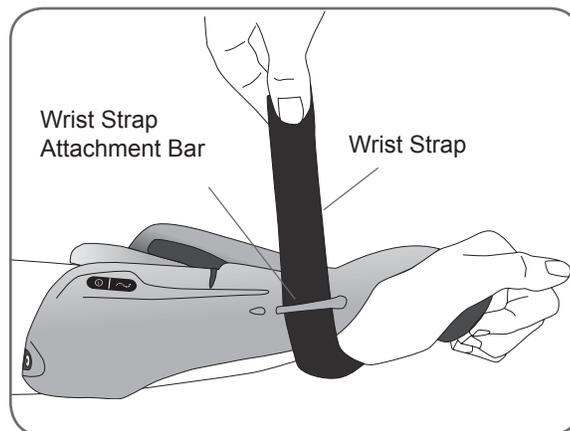

Figure 6-12: Securing the wrist strap.
2. Bring the wrist strap under the wrist and up through the wrist strap attachment bar. See Figure 6-12.